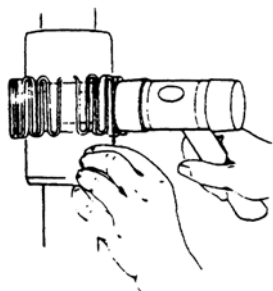

Figure 6. Grid Disassembly
- (e) Fill the gap and grooves of the coupling with lubricant. When grids are furnished in two or more segments, install them so that all cut ends extend in the same direction; this will facilitate cover installation. Seat the grid on the coupling with a soft mallet (Figure 6).